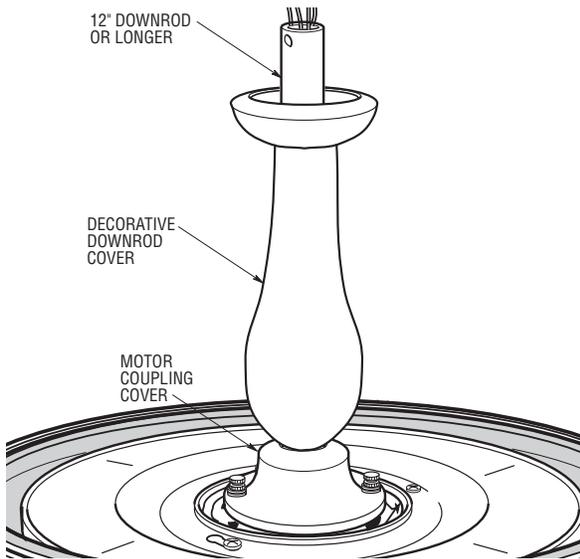

Figure 17
- 1. Slide the decorative downrod cover over the 12" downrod to rest upon the motor coupling cover (Figure 17).